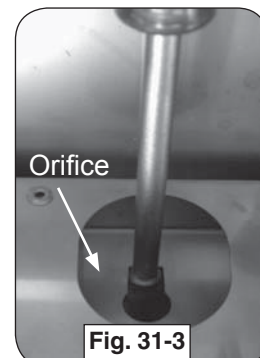

Fig. 31-3
4. Use a  $\frac{3}{8}$ " hex nut driver to remove the exposed orifice (Fig. 31-3). Check orifice. If needed, replace it with the correct orifice for the new gas.